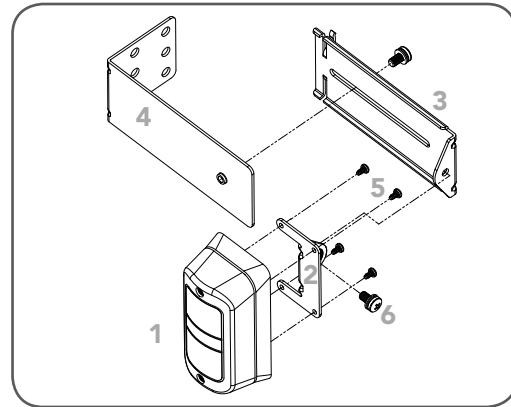

fig 56
- Attach the mounting bracket (4) to adjustment bracket (3) with the pan head screw (6) (supplied). (Fig. 56)
- Attach the PE 2000TS bracket (2) to PE beam transmitter (IR-200TS-TX) with four taptite screws (m3x5) and attach the other side to adjustment bracket (3) with the pan head screw (6) (supplied).